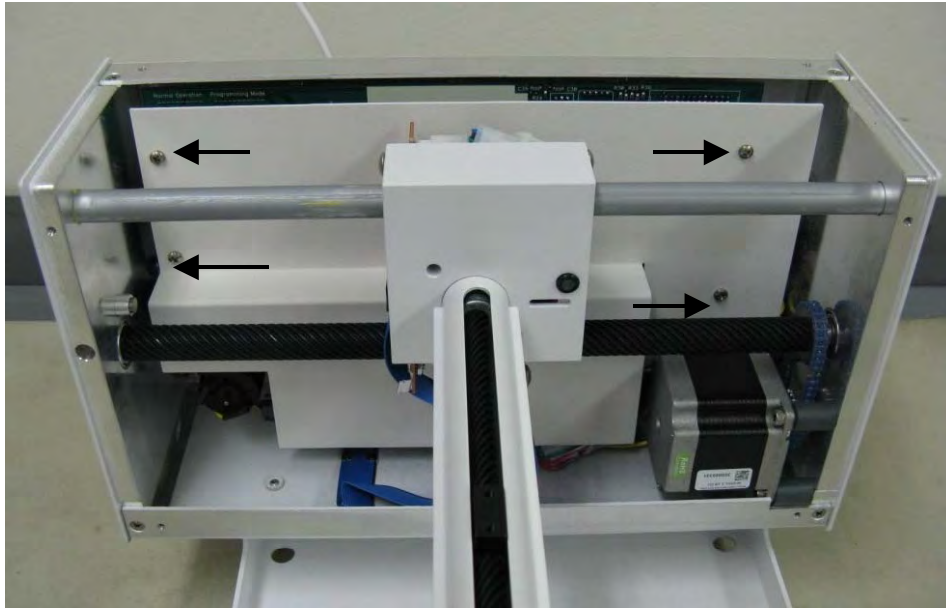

Figure 2-1. ASX-260 Inner shield mounting screws.
4. Remove the four shield mounting screws as shown in figure 2-1.